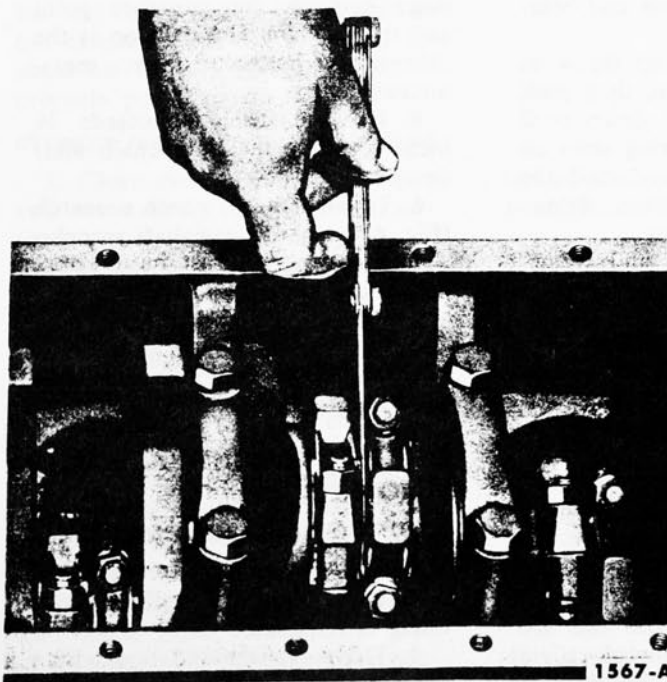

FIG. 42—Connecting Rod Side Clearance
7. After the piston and connecting rod assemblies have been installed, check the side clearance between the connecting rods on each crankshaft journal (Fig. 42).